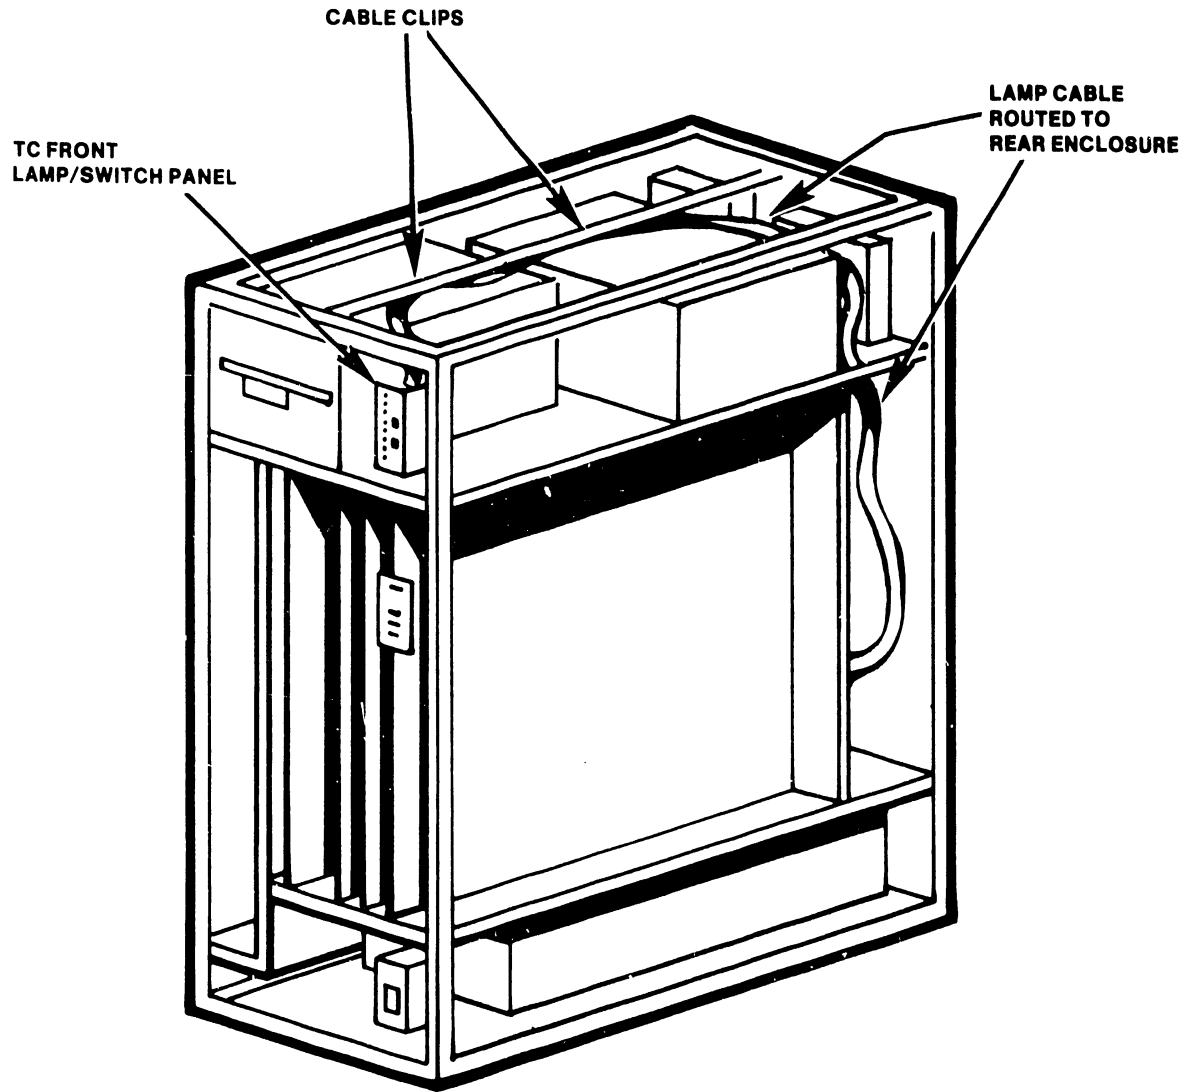

Figure 4-27 TC Front Lamp/Switch Panel
1. Loosen two Phillips-head screws and washers to remove the blank panel. Set screws and washers aside for use when installing the TC front lamp/switch panel (Figure 4-27).
3. Attach the TC front panel cable to the cable clips as shown in Figure 4-27.